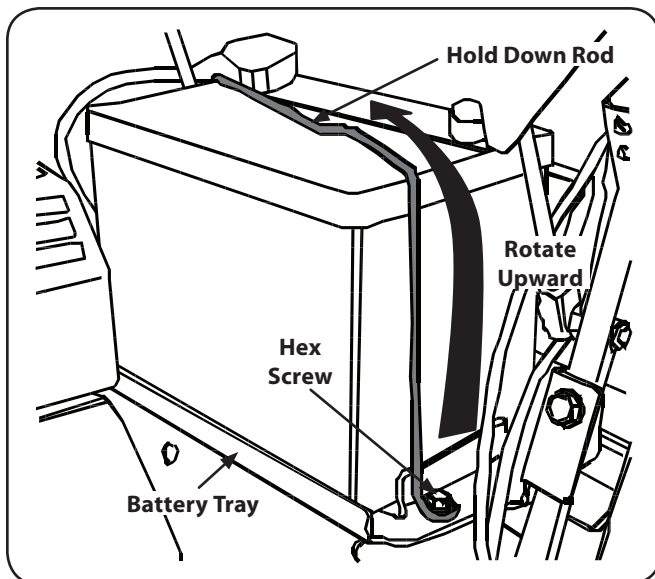

Figure 7-1
2. Remove the hex screw securing the LH side of the hold down rod to the battery tray. See Fig. 7-1.